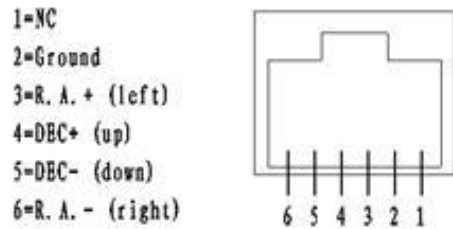

Figure 3. ST-4 Compatible Guiding Port Wiring
- ST-4: ST-4 compatible autoguiding port. The wiring is shown in Figure 3